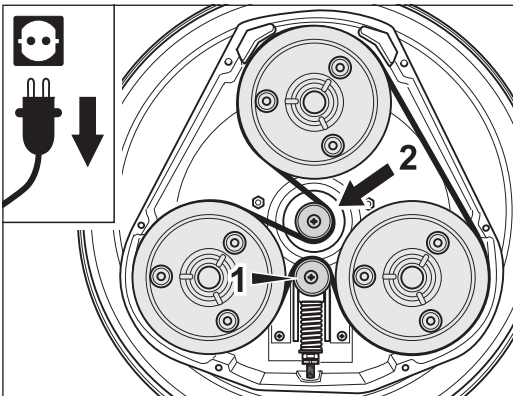

Fig. 80 When the tooth belt tensioner is **at the bottom** (1), place the tooth belt around the **right side** of the drive pinion (2).
**It is important to insert the tooth belt correctly, as otherwise the machine may suffer damage! When the tooth belt tensioner is at the bottom (fig. 80, 1), the tooth belt has to be placed around the right side of the drive pinion (fig. 80, 2)!**